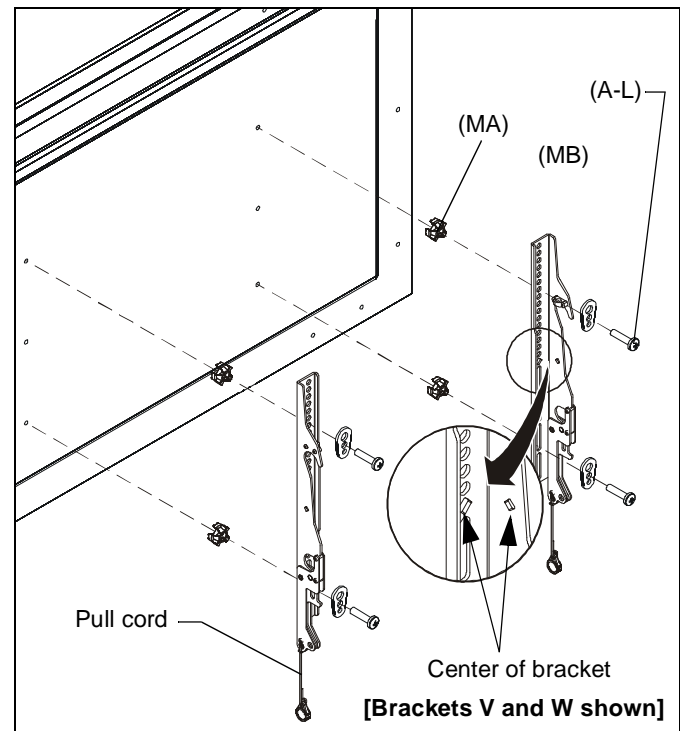

Figure 4
1. Align the center of the bracket (V and W or X and Y) with center of screen. (See Figure 4)
2. Select correct screws, nesting spacers (if necessary) and universal washers from the hardware bag (A-M) and attach brackets to back of screen. (See Figure 4)